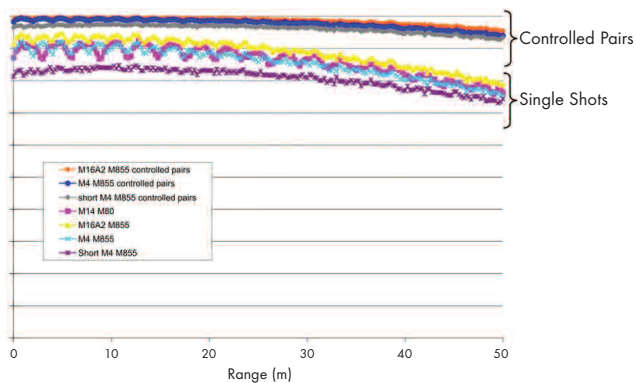

Figure 8. Improvement in Performance Due to Controlled Pairs (Source: ARL)
4. There are doctrinal and training techniques that can increase Soldier effectiveness. The analysis tools used in this study were used to evaluate some alternative engagement techniques. The technique of engaging CQB targets with controlled pairs – two aimed, rapid shots as described in Chapter 7 of FM 3-22.9 – was shown to be significantly better than single aimed shots (see Figure 8). While that should certainly not be surprising to those who have been using this technique for some time, we now know why. Not only are two hits better than one, but controlled pairs help to average out striking yaw; on average, the Soldier is more likely to see a hit where the bullet’s yaw behavior works in his favor.